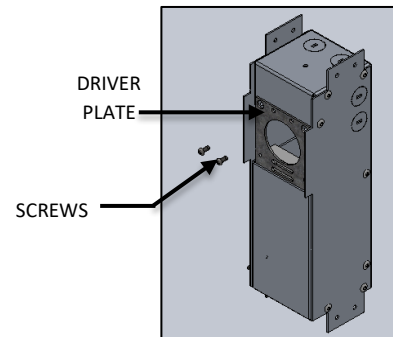

FIG. 7 - DRIVER PLATE DISASSEMBLY
3. Remove the Screws securing DRIVER PLATE, and slide DRIVER PLATE out of J-BOX as shown in FIG. 7.